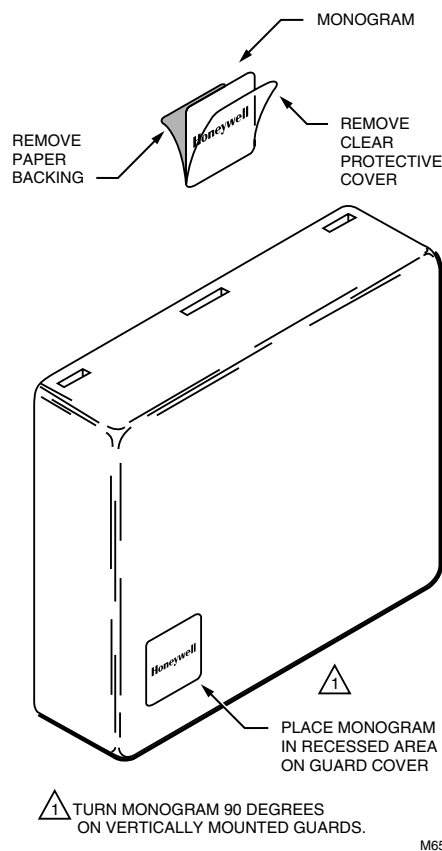

Fig. 9. Apply monogram to thermostat guard (TG510, TG511, TG512 shown).
- 7 Remove the paper backing and clear protective cover from the included monogram and place the monogram in the recessed area on the guard cover. See Fig. 9.
- 11 Remove the paper backing and clear protective cover from the included monogram and place the monogram in the recessed area on the guard cover. See Fig. 9.
- ⓬ Remove the paper backing and clear protective cover from the included monogram and place the monogram in the recessed area on the guard cover. See Fig. 9.
- ⓯ Remove the paper backing and clear protective cover from the included monogram and place the monogram in the recessed area on the guard cover. See Fig. 9.